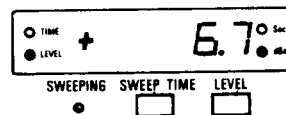

Figure 3-3. How to Enter Parameter Data
To provide an overview, several examples of how these pushbuttons are used to accomplish data entry are given in Figure 3-3. Individual DATA ENTRY pushbuttons are described in subparagraphs a through f.
- a power level parameter may be ended in either dB or dBm, the value is always displayed in dBm. The dB terminator pushbutton allows the displayed power level parameter to be either added to or subtracted from in dB's. When the dB terminator is used, the sweep generator performs the calculations that convert the output power to a value in dBm. Example 4 in Figure 3-3 shows the use of the dB terminator pushbutton.